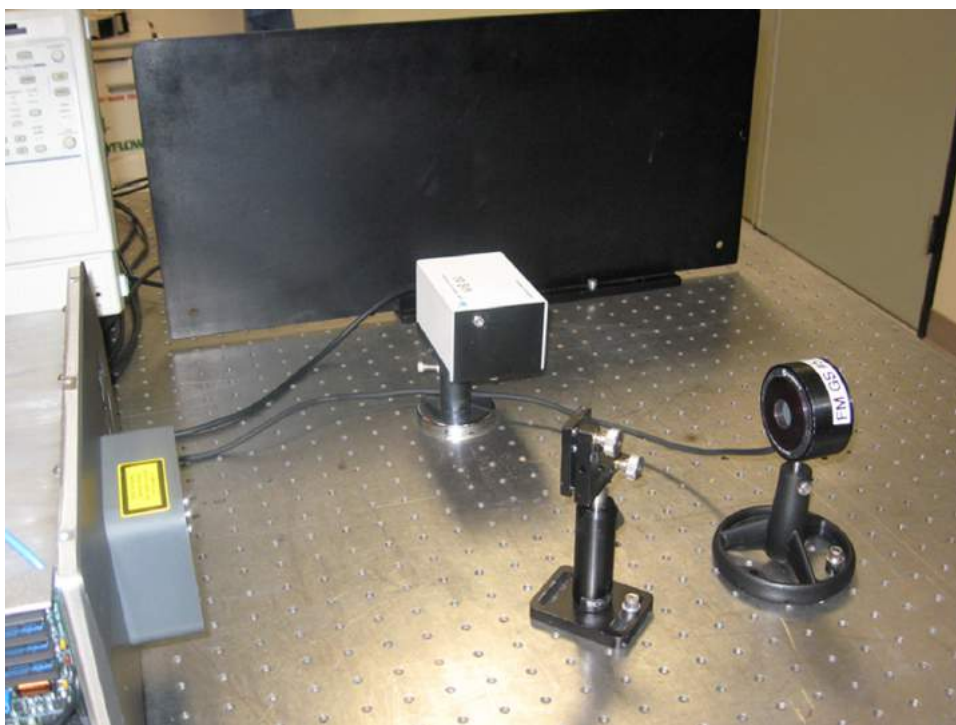

Figure 5.13-3. Test Set Up with Beam Split, Rees Spectrometer, and Power Meter
1. Place the 45° beam split at the output port of the Chameleon laser head at about 8 to 20 cm (3 to 8 in), and appropriately locate the power meter and spectrum analyzer. Refer to Figure 5.13-3.